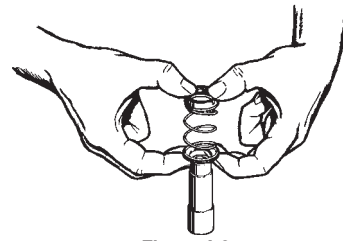

Figure 4-3
8. Remove the rotating element from the sleeve. Refer to Figure 4-3. The element normally adheres tightly to the sleeve and some force may be necessary to remove it. This is common and if care is taken, the element can be reassembled and reused. **It is recommended that a new rotating element be used for reassembly.** DO NOT attempt to remove the seal using a screwdriver or other sharp object.